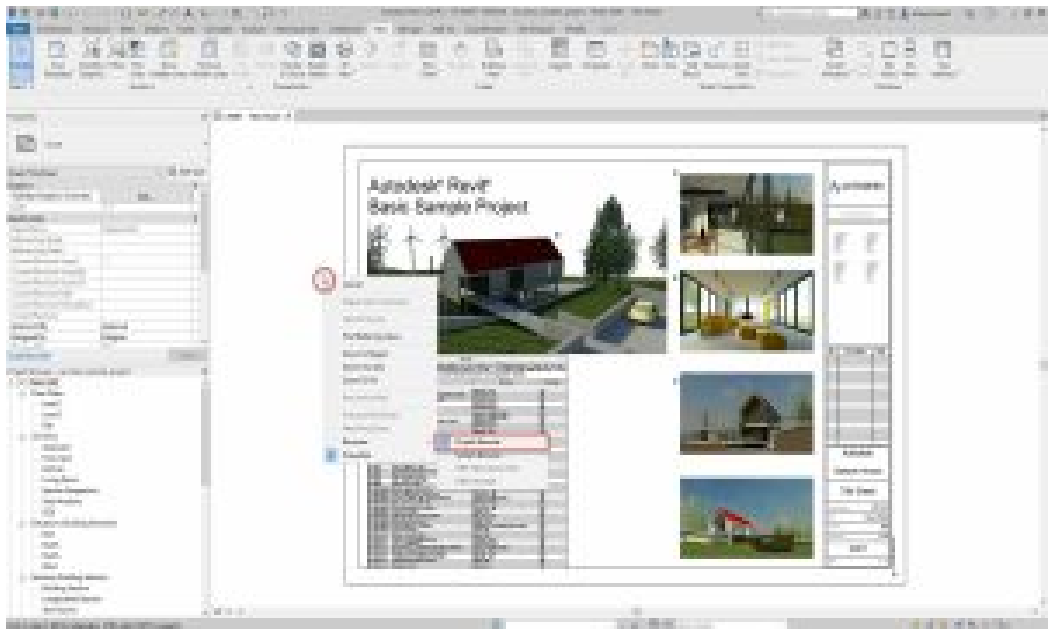

Figure 1.6 Accessing the Project Browser
- Option 2: shown in Figure 1.6